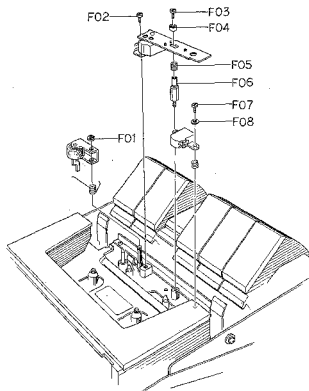

Fig. 3.4
Refer to Fig. 3.4. Remove front panel ass'y referring to item 3.5.
(1) Pressure Roller Ass'y